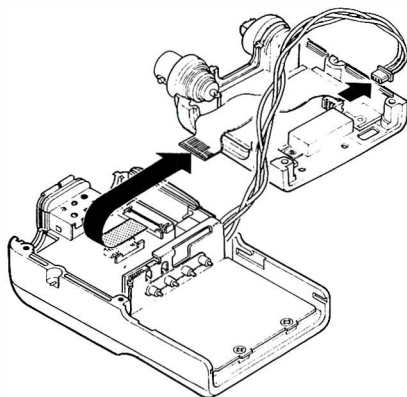

Figure 2.
- Disconnect the flat ribbon cable from its connector on the AF Unit by using two fingertips to slide out the cable release, then unplug the 3-pin connector from the Mother Unit, as shown in Fig. 2.